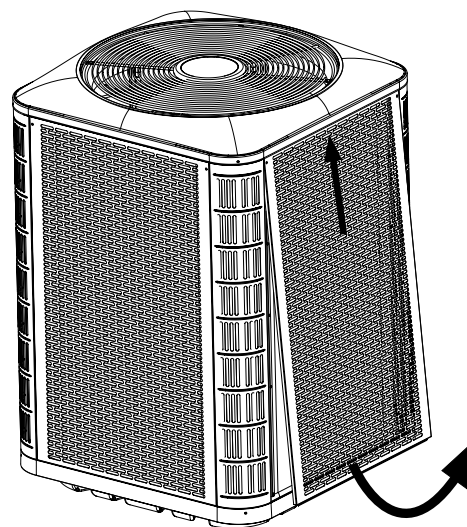

Figure 4. Panel Removal
2. Slide the panel up towards the top pan in order to clear the bottom flange from the base pan. See Figure 4.